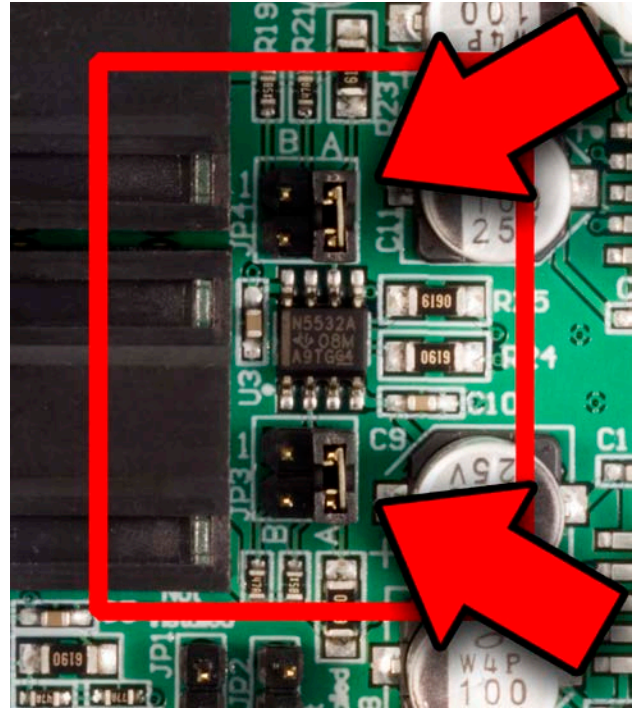

Figure 4 - **HPA2™** Gain is 0 dB
- **Gain = 0 dB** - see **Figure 4**